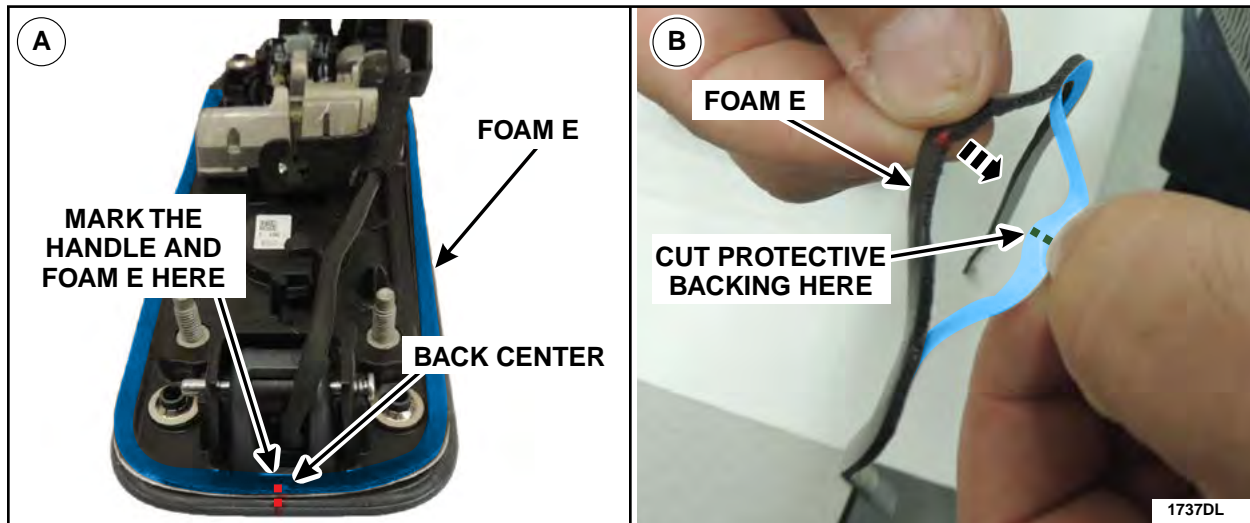

FIGURE 44
- A. Lay out Foam E on the exterior door handle and mark center as shown in Figure 44.
- B. Remove Foam E from the door handle and remove the back center portion of the adhesive backing then cut the protective backing in half. See Figure 44.